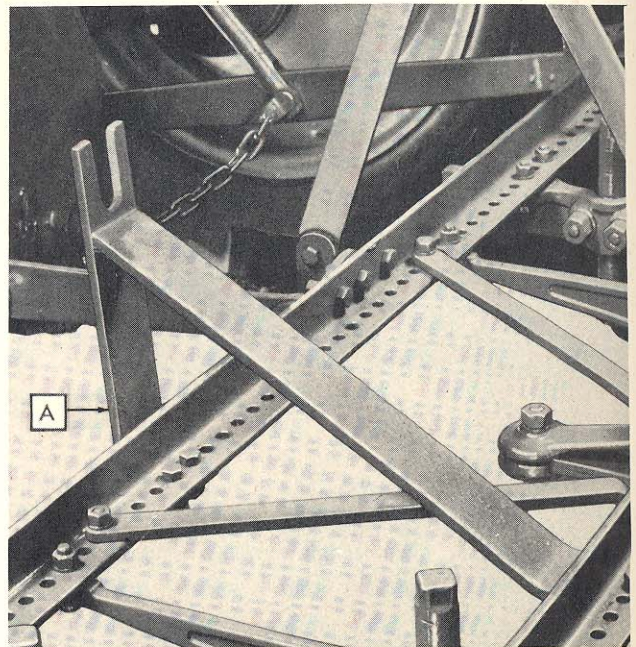

Figure 3
**Step 4.** Attach rear push rod brackets (A) to frame of rear cultivator, as shown in Figure 3.